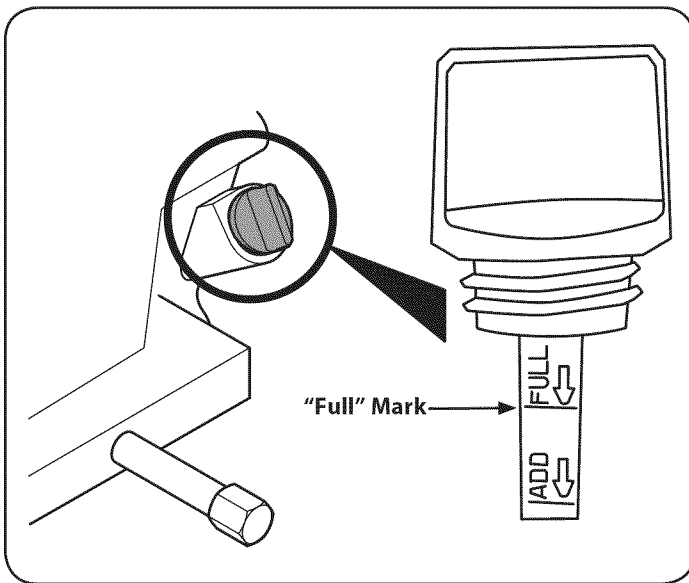

Figure 7
2. Remove the oil filler cap/dipstick and wipe the dipstick clean. See Figure 7.
4. Remove the oil filler cap/dipstick. The oil should be at the "FULL" mark. If it is not, add oil slowly until the "FULL" mark is reached. See Figure 7.